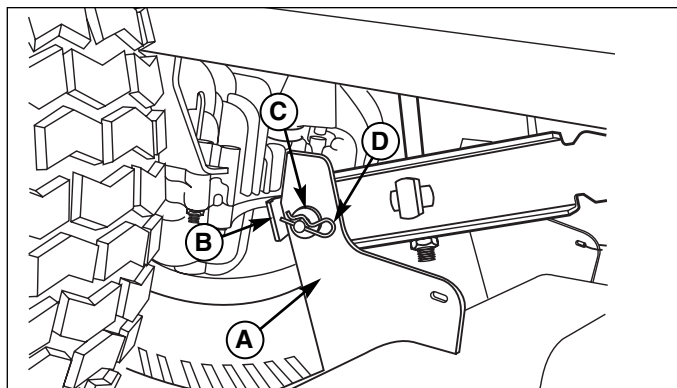

Figure 12. Lift Arms
4. Remove hair pin (D, Figure 12) and washer (C). Disconnect the mower lift channels (A) from the tractor lift arms (B). Re-install washers (C) and hair pins (D) to prevent loss.
4. Connect the mower lift channels (A, Figure 12) to the tractor lift arms (B). Install washers (C) and hair pins (D).